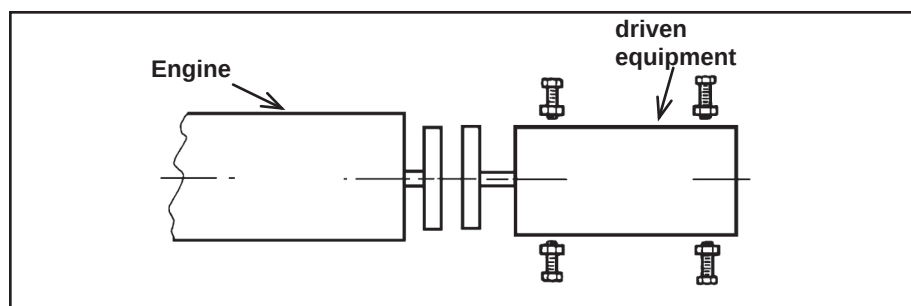

Figure 7-42: Correct angular alignment
5. Check angular alignment again using the same procedure as used previously. Angular alignment is correct when total indicator runout is less than 0.005 in. (0.127 mm) per foot of radius from center of shaft to where the dial indicator reads (see "Figure 7-42: Correct angular alignment").